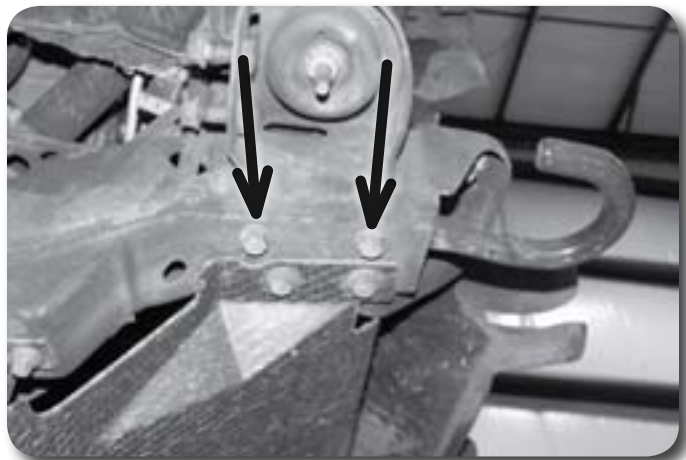

Figure 5
7. If equipped, remove the two bolts mounting each of the tow hooks in the frame rails and remove the tow hooks from the vehicle **Figure 5**.